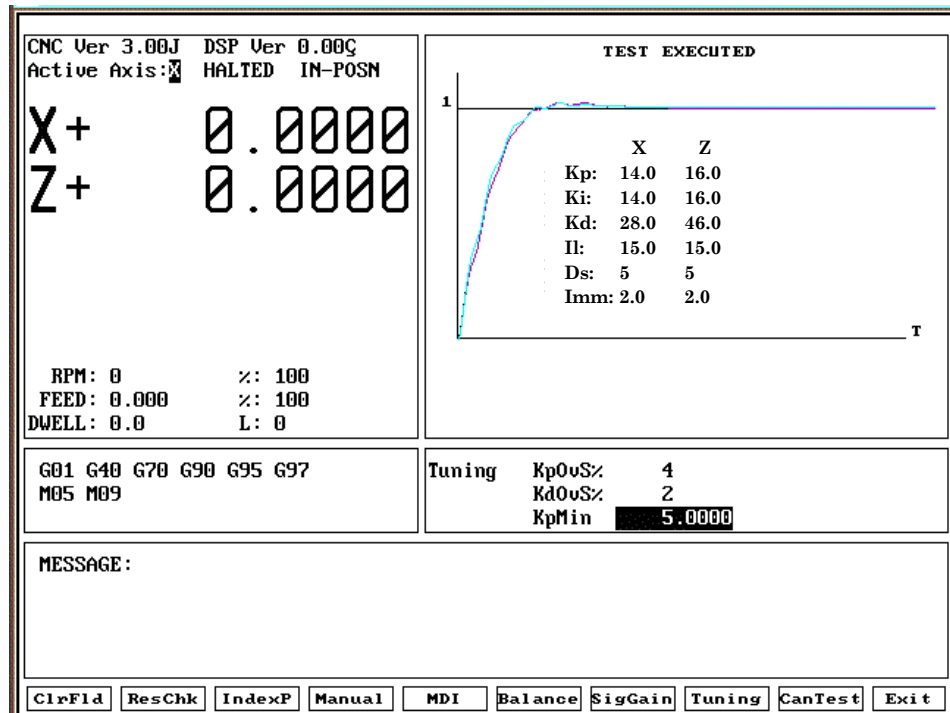

Figure 11, Tuning Parameters Test Results Screen
The Tuning function can determine optimum values within constraints you specify. The default values are usually correct for most machines. To fine-tune, enter values manually or use this test. Refer to **Figure 11, Tuning Parameters Test Results Screen**.
6. Refer to **Figure 11**. After the test, the CNC plots the final step responses (for all axes tested) and displays them in the graphic area of the screen.
1. Refer to **Figure 11**. After the Tuning Test, the results are displayed in the Graphics Area of the screen. Press **TUNING (F8)** and highlight **Save Results**.